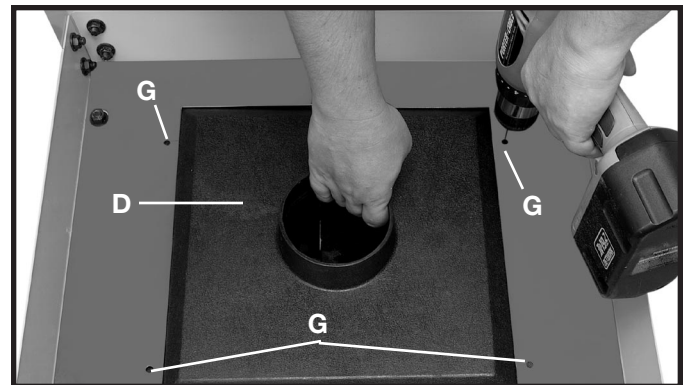

Fig. 5E
5. Lift up on the dust collection hood (D) Fig. 5E, and use a 1/8" drill bit and drill a pilot hole through one of the dust collection hood mounting holes (G) in the adapter plate. Thread a #10x1/2" sheet metal screw into the hole. Repeat this process for the three remaining holes (G) in the adapter plate.